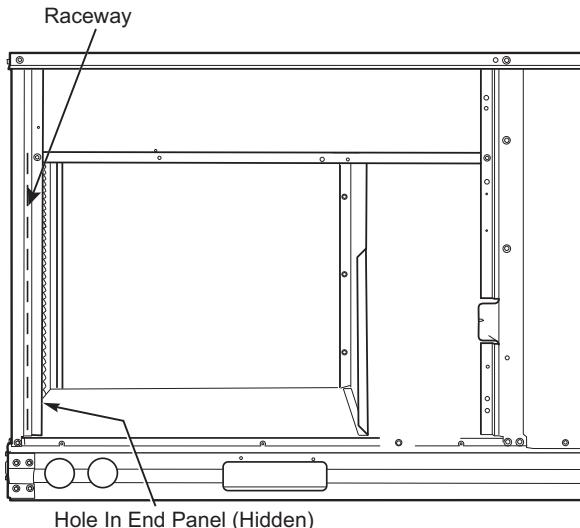

Fig. 31 – Field Control Wiring Raceway
Pass the thermostat control wires through the hole provided in the corner post; then feed the wires through the raceway built into the corner post to the control box. Pull the wires over to the terminal strip on the upper-left corner of the Unit Control Board. See Fig. 31. Using the raceway maintains separation between low voltage and high voltage wires in accordance with UL and NEC requirements.
2. Feed wires through the raceway built into the corner post (see Fig. 31) to the 24-v barrier located on the left side of the control box. The raceway provides the UL-required clearance between high-voltage and low-voltage wiring.